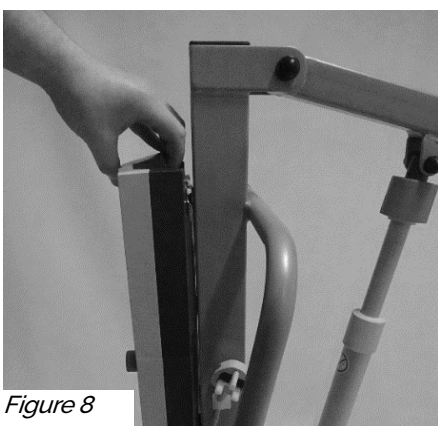

Figure 8
1. Grab Hold of the Battery from the top position as shown in figure 8 and place your fingers onto the latch.